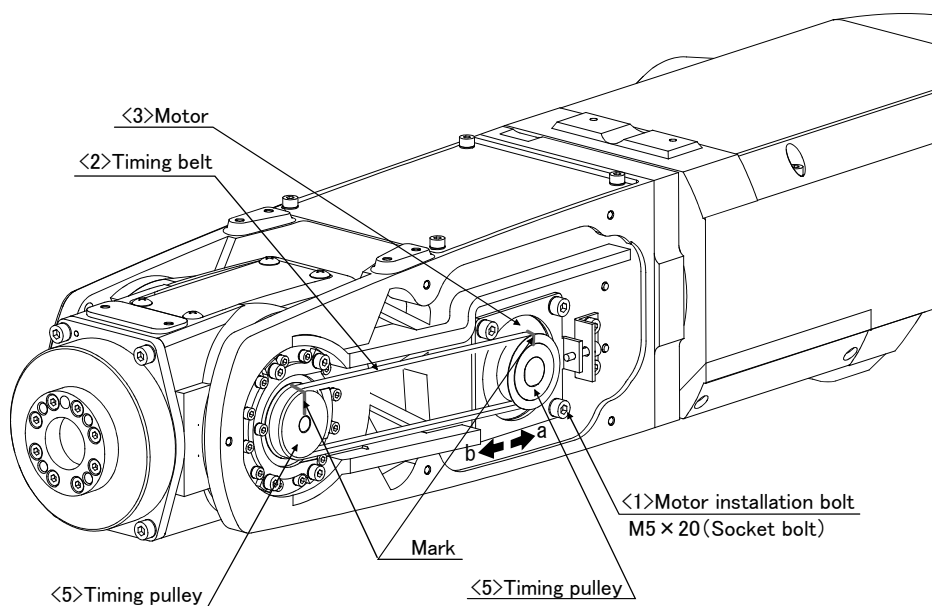

Fig.5-4 : Inspection, maintenance and replacement of J5-axis timing belt
- 3) Move the motor <3> in the directions of the arrows shown in Fig. 5-4, using the tension adjustment screw while checking the tension of the timing belt <2>. Lightly pushing the center of the belt with your finger (approximately 2 N), move the motor to the position where the belt flexes about 2.5 mm.
- 1) Fig. 5-4 shows the methods for inspecting, adjusting and replacing the timing belt.
- 5) Make marks on the timing belt <2> and timing pulleys <4> and <5> with a felt-tip pen as shown in Fig. 5-4 so that the engagement of the timing belt <2> and timing pulleys <4> and <5> does not deviate.
- 9) Refer to steps "3)" to "6)" in "■ Adjusting the J5 axis timing belt" and "(3) Timing belt tension" to adjust the tension.